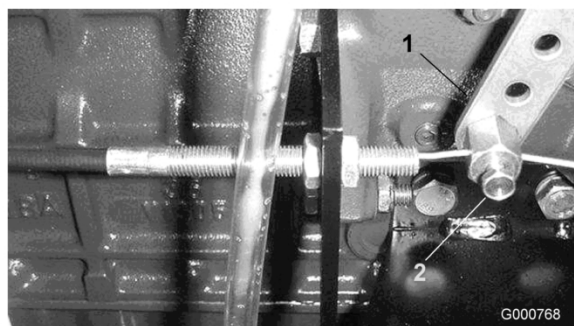

Figure 44
2. Loosen the throttle cable connector on the lever arm at the injection pump (Figure 44).